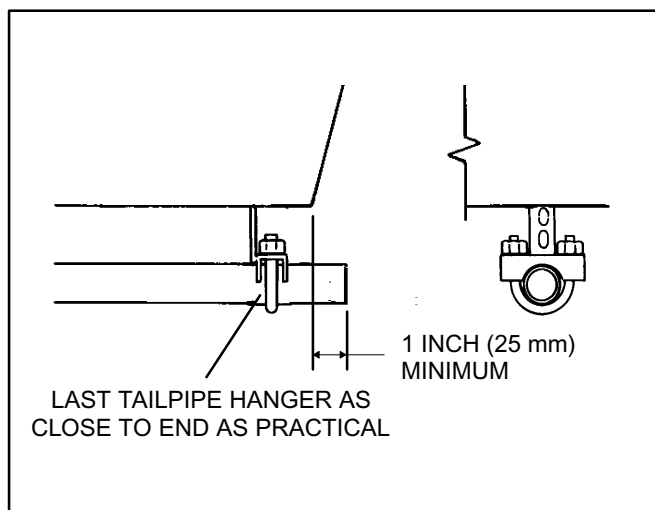

FIGURE 8. TERMINATING THE EXHAUST TAILPIPE
9. Do not terminate the tailpipe underneath the vehicle. Extend it a minimum of 1 inch (25 mm) beyond the perimeter of the vehicle (Figure 8). Support the end of the tailpipe such that it can-not be pushed in and up under the skirt of the vehicle.